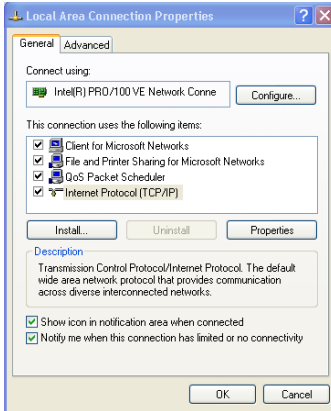

Figure 32: Local Area Connection Properties Window
5. Select the Internet Protocol (TCP/IP) and click the **Properties** Button (see Figure 32).